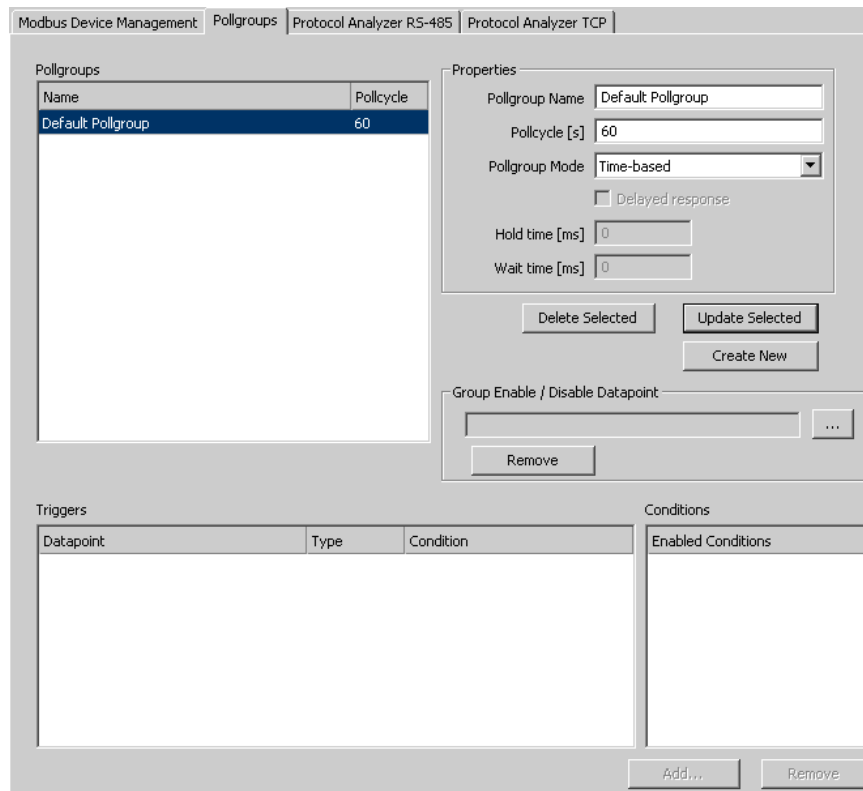

Figure 282: Pollgroup Management dialog.
2. Open the **Pollgroups** tab. This shows the dialog displayed in Figure 282.
2. In the **Modbus Management** dialog, open the **Pollgroups** tab. This displays the poll groups management tab displayed in Figure 282.